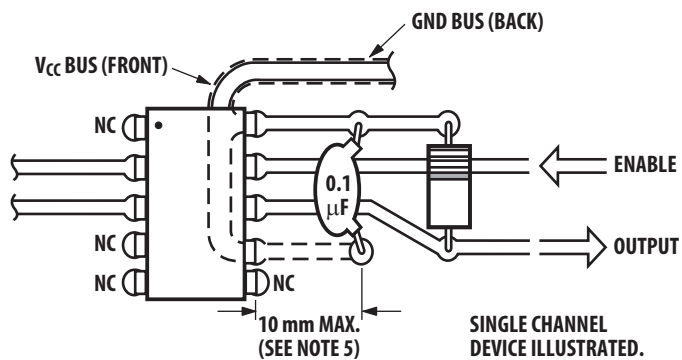

Figure 15. Recommended printed circuit board layout.
- By passing of power supply line is required, with a 0.1 μF ceramic disc capacitor adjacent to each optocoupler as illustrated in Figure 15. Total lead length between both ends of the capacitor and the isolator pins should not exceed 20mm.